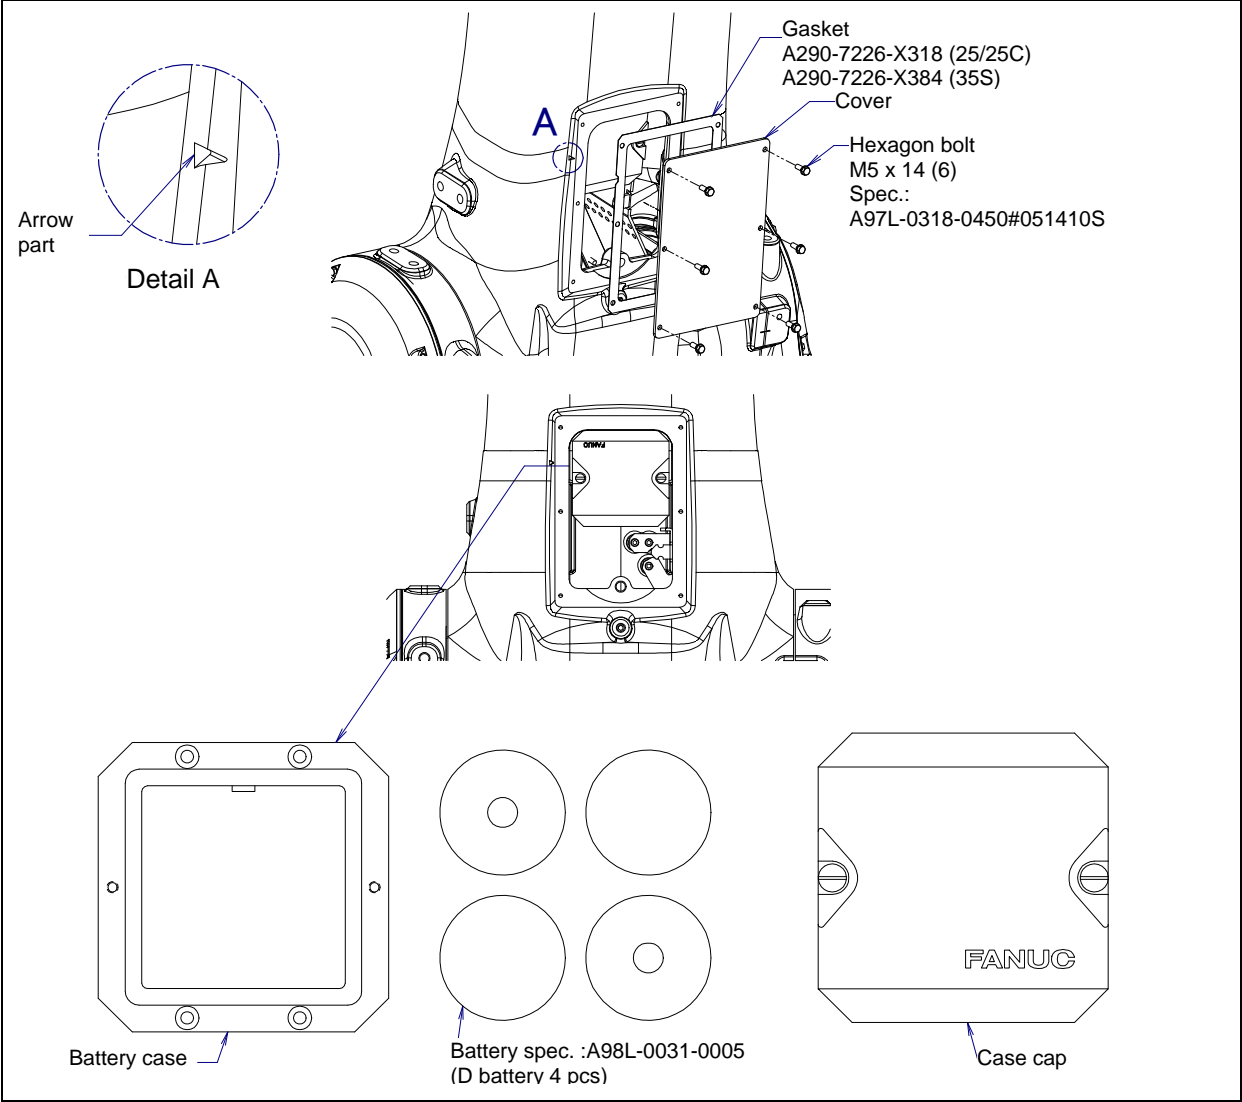

Fig. 7.3.1 Replacing the battery
- 4 Remove the battery case cap. (Fig. 7.3.1)